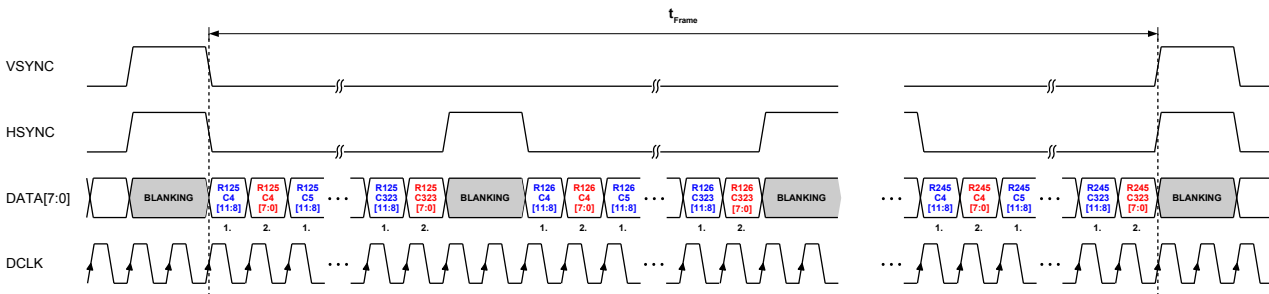

Figure 32: **msb/lb** split mode
- msb/lbs split mode: Transfers 12 bit pixel data with MSByte leading and LSByte trailing with 2x DCLK. Refer to Table 14 and Figure 32.